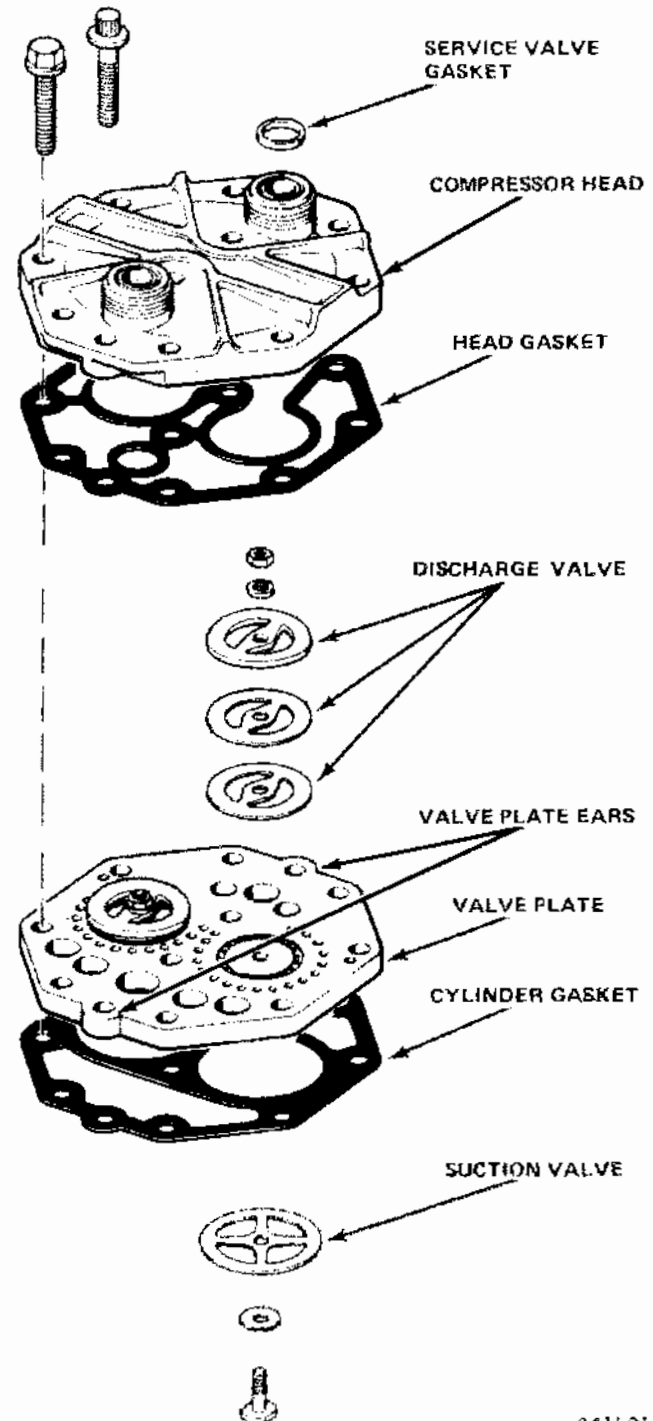

Fig. 13A-13 Head and Valve Plate Assembly Sequence
(1) Isolate compressor.
(2) Remove service valves from compressor. The compressor head service valve ports are identified D for discharge and S for suction.
(3) Remove compressor head attaching screws.
(4) Tap under valve plate ears (short, half-round projections on the valve plate) to remove head and valve plate (fig. 13A-13).